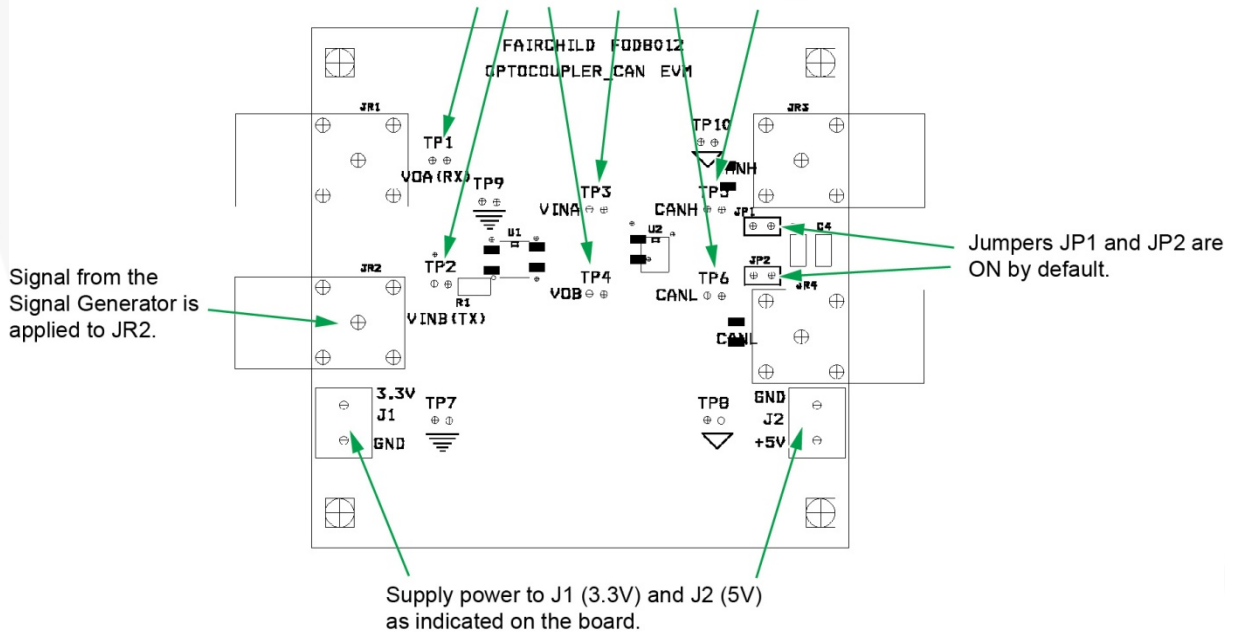

Figure 3. FEBFOD8012\_CAN Board Setup
The FEBFOD8012\_CAN evaluation board enables users to make a quick and accurate assessment of Fairchild's FOD8012 in a bi-directional data transmission application. The setup requires two power supply sources.  $V_{DD1}$  (J1) is on one side of the isolation barrier with  $V_{DD2}$  and  $V_{CC}$  (J2) is on the other side of the isolation barrier, sharing the same power supply source. A square wave is applied to one of the FOD8012 channels (VINB / VOB), which in turn drives the CAN transceiver. The resulting CAN output is fed back to the input of the other FOD8012 channel (VINA / VOA). This completes the bi-directional data transmission loop. Test points located at selected positions (as indicated in Figure 3 and Figure 4) allow the user to probe the signals and measure the switching characteristics of the device.
The following steps and Figure 3 describe the setup of the FEBFOD8012\_CAN board.
5. Enable the signal generator. The signal waveforms can be probed at various test points, as shown in Figure 3:
- TP1: VOA (RX) is the output voltage from channel-A of the FOD8012.
- TP2: VINB (TX) is the input voltage to channel-B of the FOD8012. Signal from the signal generator is applied here.